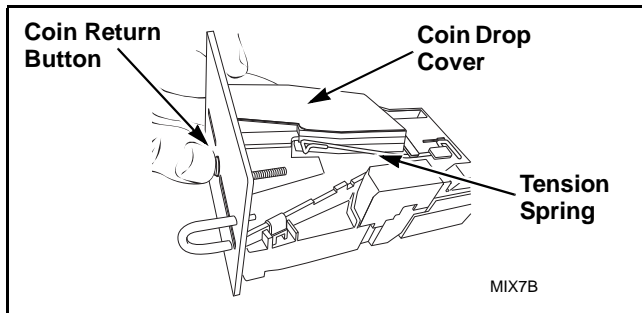
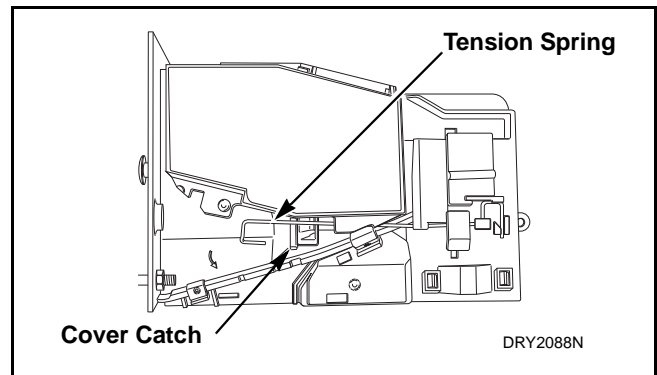

Figure 2
Figure 4
- (1) Clean coin drop. Refer to *Paragraph 66*.
- (2) On electronic coin drops with an old-style tension spring (shown in *Figure 2* and *Figure 4*), test and replace tension spring using the following instructions.
- (1) Push coin return button to open and close coin drop cover to clear possible coin jams. Refer to *Figure 2*.
- (1) Move tension spring downward until cover catch is free. Refer to *Figure 4*.
Refer to *Figure 4*.